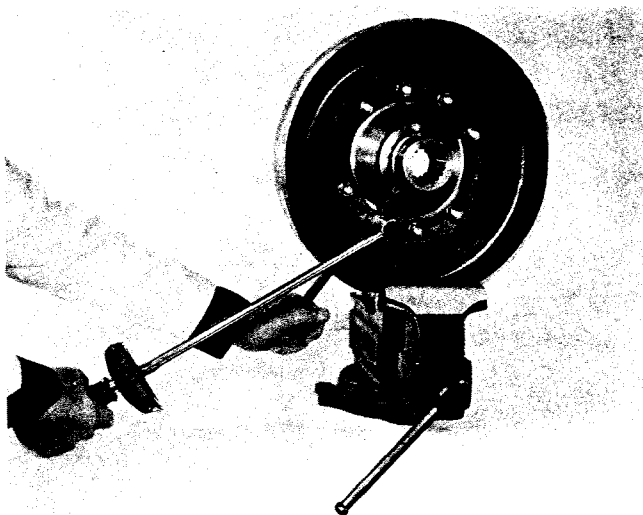

FIG. 144
7. Position parking brake drum on companion flange. Secure with bolts, lockwashers, and nuts. Tighten per torque specifications (Fig. 144).